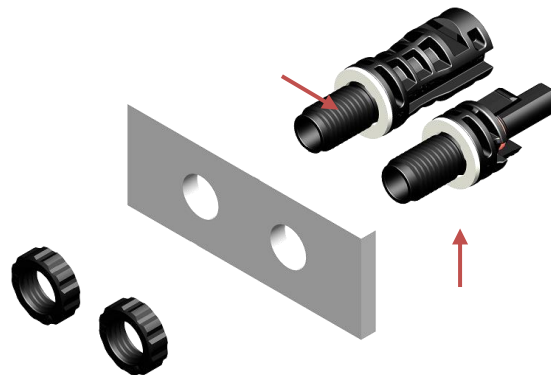

Figure 16
- ✧ 在公/母面板连接器插入钻孔前，请确保已安装防水垫圈，且防水垫圈安装在墙板的外侧（如图 16）
Please ensure seal gasket is located and positioned outside of the mounting surface before the male or female panel connector inserts the drilled hole. (Fig.16)